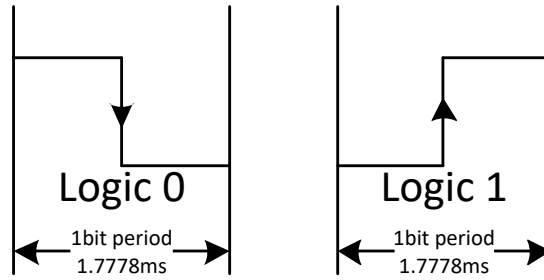

Figure 3-129 Bi-phase Coding
- Bi-phase coding transmission protocols, such as RC5 and RC6 protocols. See Figure 3-129. The IRRX module can decode the signal by a constant period sample pulse.